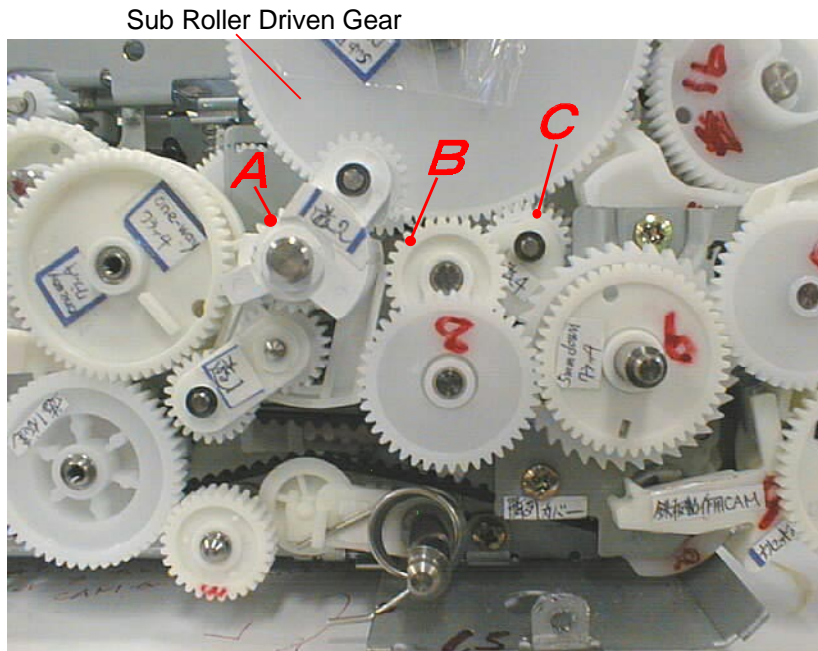
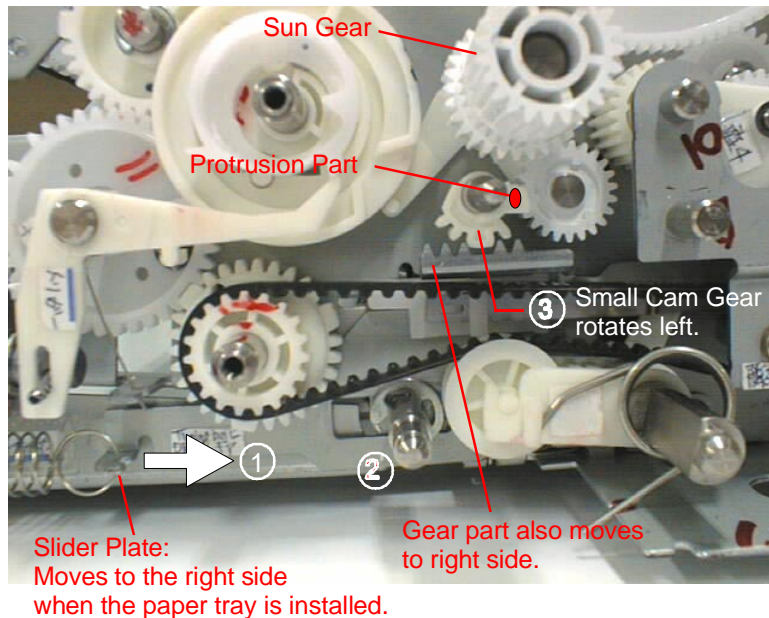

Figure 2-13. Conveying Motive Power in the Sub Roller Gear Train
Figure 2-14. Gear Train Transmission(1)
The sub roller of Stylus Pro5000 is the big roller which always rotates, no matter which paper tray is used to load the paper. This roller rotates only while the pump/ASF motor rotates in reverse. Figure 2-13 shows motive power transmission.
Pump/ASF motor rotates in reverse, then the sun gear marked “A” in the figure2-13 also performs reversed rotation. By this reverses rotation of this sun gear, the planetary gear 3 makes the transmission gear, which is located rear side of Gear B. rotate in reverse. (Since Gear 3 is located behind the planetary gear2, it is not shown in the figure2-13) By this, the planetary gear 4(Gear “C” in the figure), which is hiding itself in the below, comes up as it is shown in the figure, and makes it possible to have engagement with Sub Roller Driven gear.
Gear train of Stylus Pro5000 is controlled so that it is not until the user install the paper tray that the motive power becomes available for the lifter gear train. However, if the user removes the paper tray while the printer is performing the paper loading, the lifter which has been lifted up, returns to the reset position. Also, if the paper tray is not installed, C228 main control board prevents the lifter from being lifted up by the feedback signal from the logical line in order to avoid accidents. Figure2-14 shows all parts which changes their conditions, when the hopper is installed.
By installing the paper tray to the printer body, this flag moves to rear side (to right direction in the figure2-14). Along with this, the slider plate moves to right side. (See ① in the figure2-14) On this plate, the small cam gear always engages with the notched part, which looks like the gear teeth. (See ② in the figure2-14). This cam gear is located under the sun gear, and is usually located behind planetary gear 2(Refer to figure2-13). Therefore, when the slider plate moves to the right side, cam gear rotates left. As a result, the protrusion side of the cam gear faces upward.